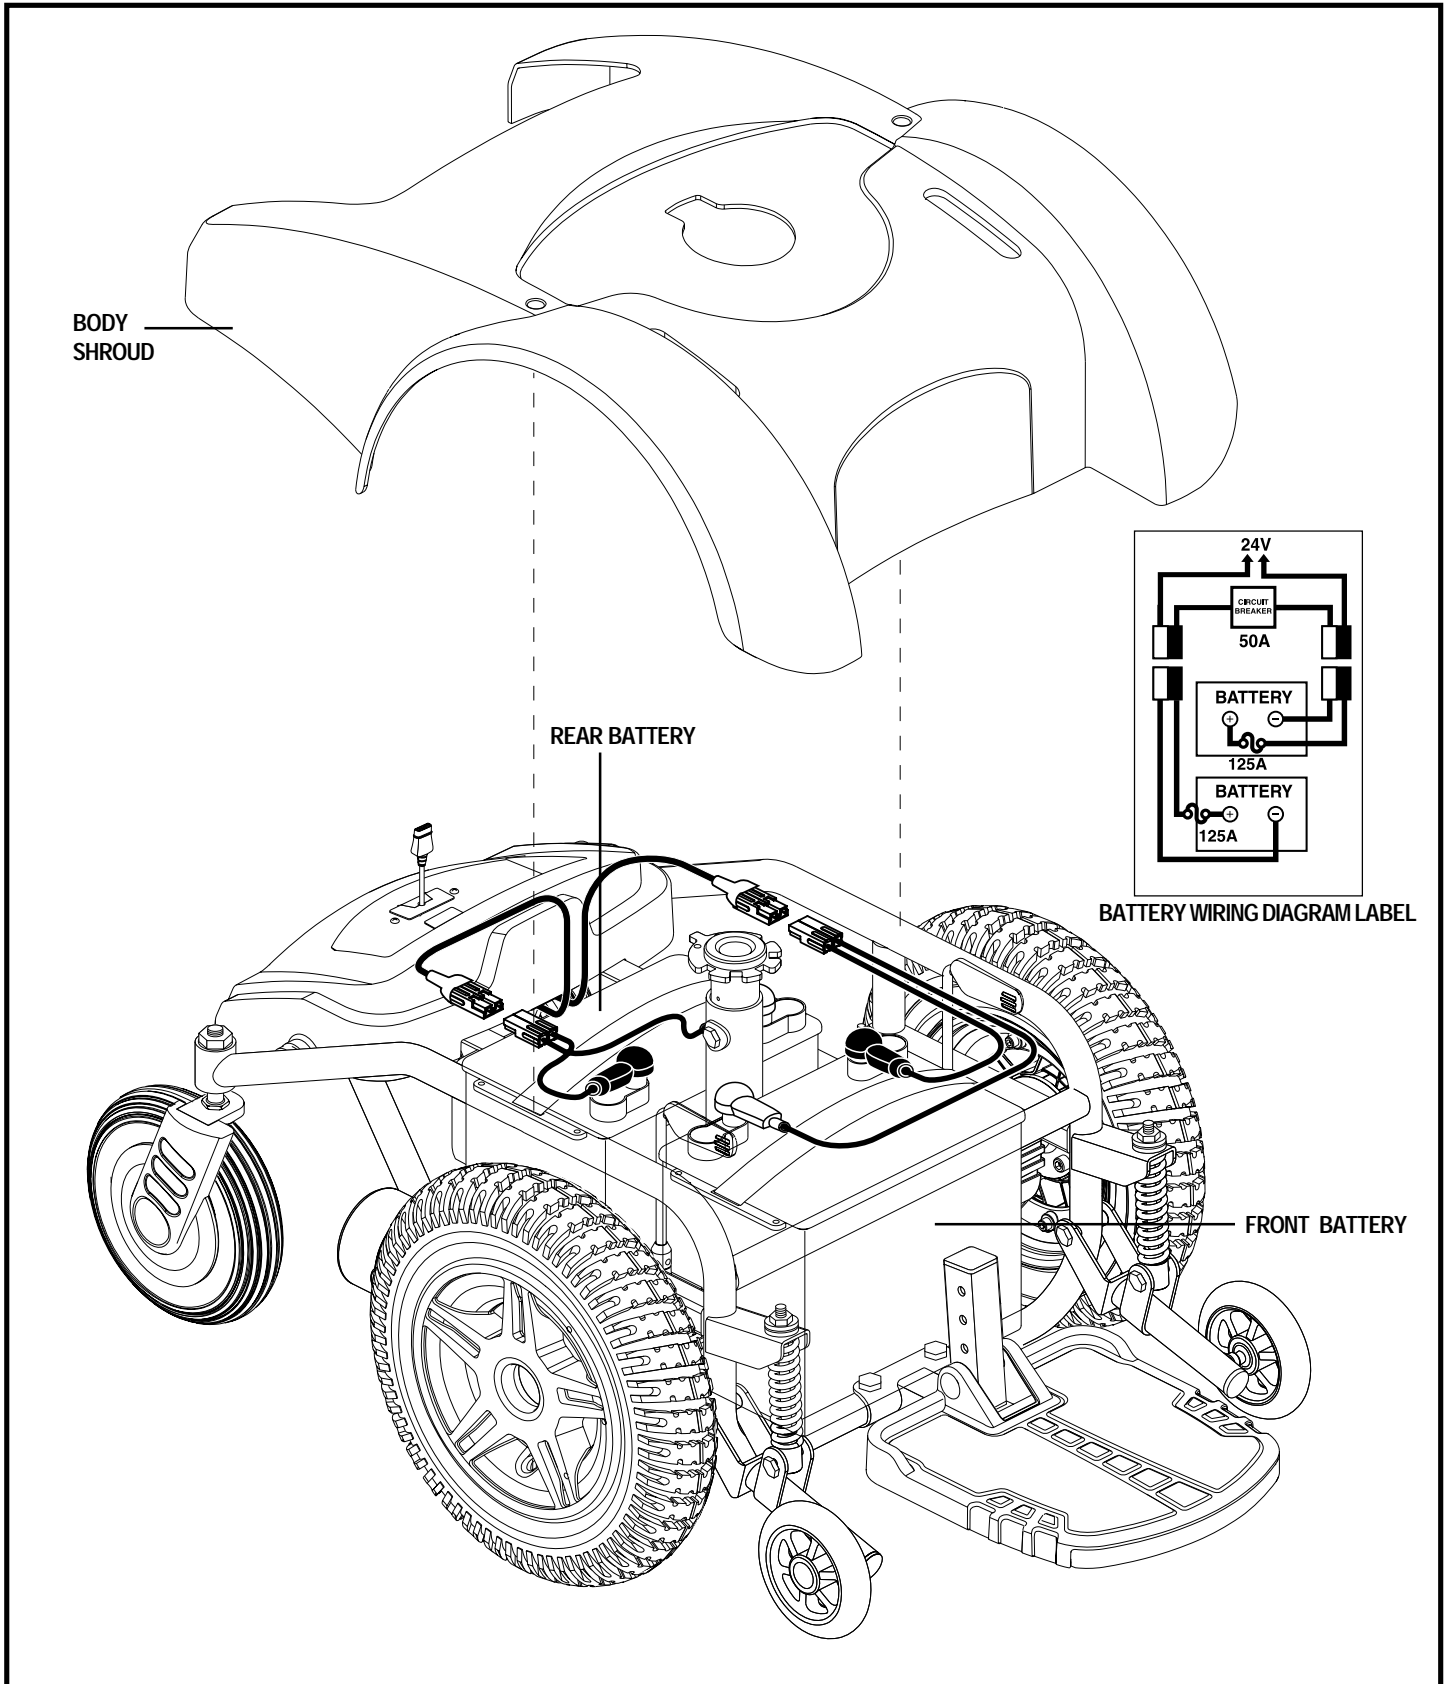

Figure 22. Battery Installation
12. Connect the wire marked (+) to the closest positive (red) battery terminal. See figure 22.